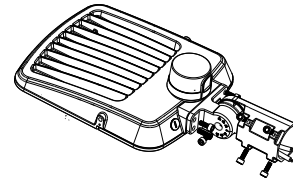

Figure 3
2.AJUSTABLE FITTER MOUNTING (AM)
Step 1: Remove the bracket mounting screws on the fixture and run the wires through the bracket. (Figure 3)